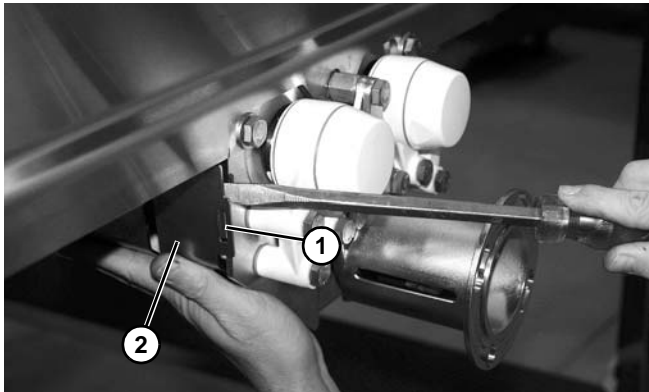

Figure 172
1. Use a flat blade screwdriver to remove slotted area on cover (Figure 172, item 1) from tab (Figure 172, item 2) on center drive side plate.